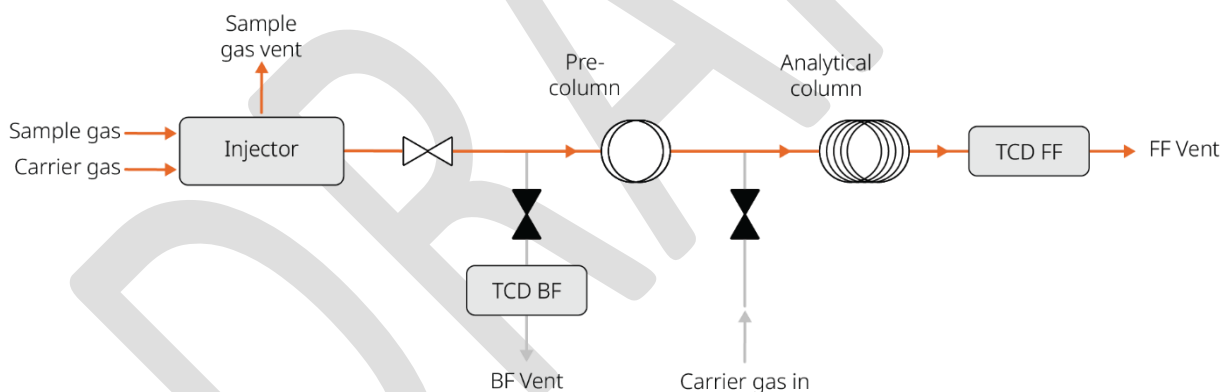

Figure 6. Foreflush to detector.
At the start of an analysis, the carrier gas directs the sample in the so called foreflush (FF) state to the pre-column and analytical column, as depicted in the Figure 6. The injected sample is separated in the pre-column and the separated components can enter the analytical column.